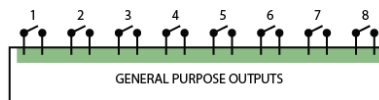

Figure 2.1: GPO Pinout
Each GPO port features a normally-open (NO) relay for switching external equipment. The relay can switch 50VAC/30VDC up to 3A. Please refer to figure 2.1 for the pinout of the GPO connector.